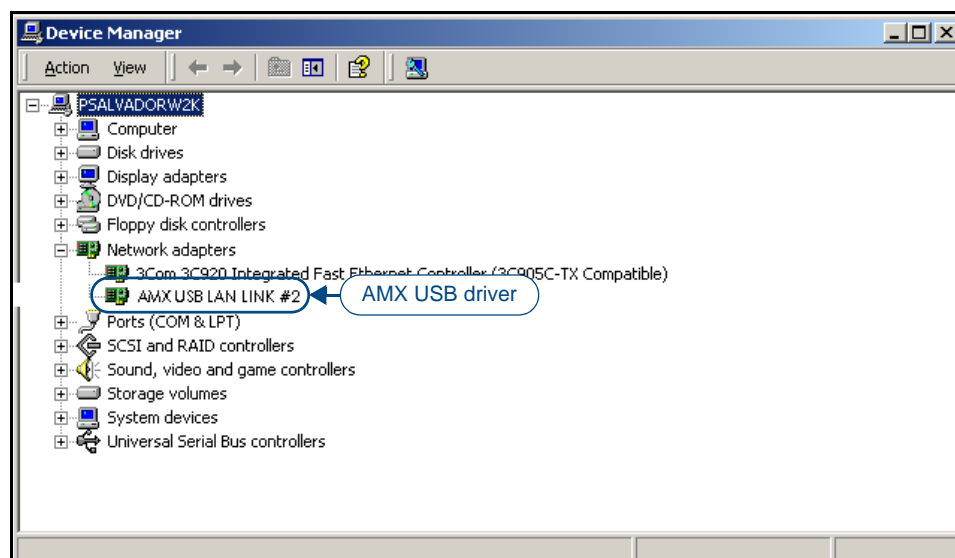

FIG. 23 Device Manager dialog showing USB device
- Within the *Device Manager* dialog, the AMX USB LAN device appears under Network Adapters (FIG. 23) and has a unique name such as AMX USB LAN LINK #2. The number changes depending on which recognized panel is currently connected.